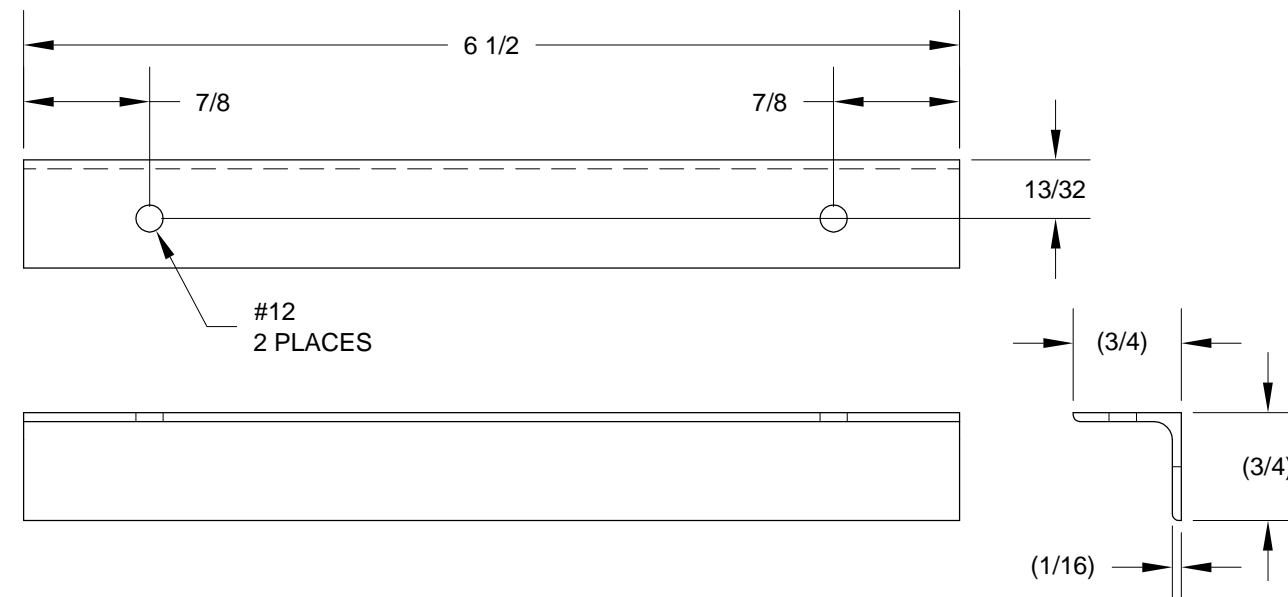

FIGURE 3: F-1011E RUDDER CABLE ANGLE
Step 4: Make the **F-1011E** Rudder Cable Angle, as shown in Figure 3, from the length of AA6-063 x 3/4 x 3/4 provided in the kit.